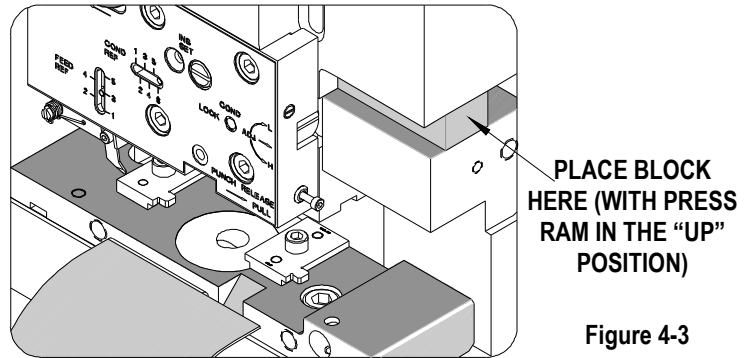

Figure 4-3
- Support the ram in the upper position with a hardwood wedge (approximately 1 7/8" high). See Figure 4-3.
- Remove (3) M6 x 40 Long SHCS from the Flywheel.
- Remove the (3) M6 x 16 Long SHSS (socket head shoulder screw) from the clutch plate.